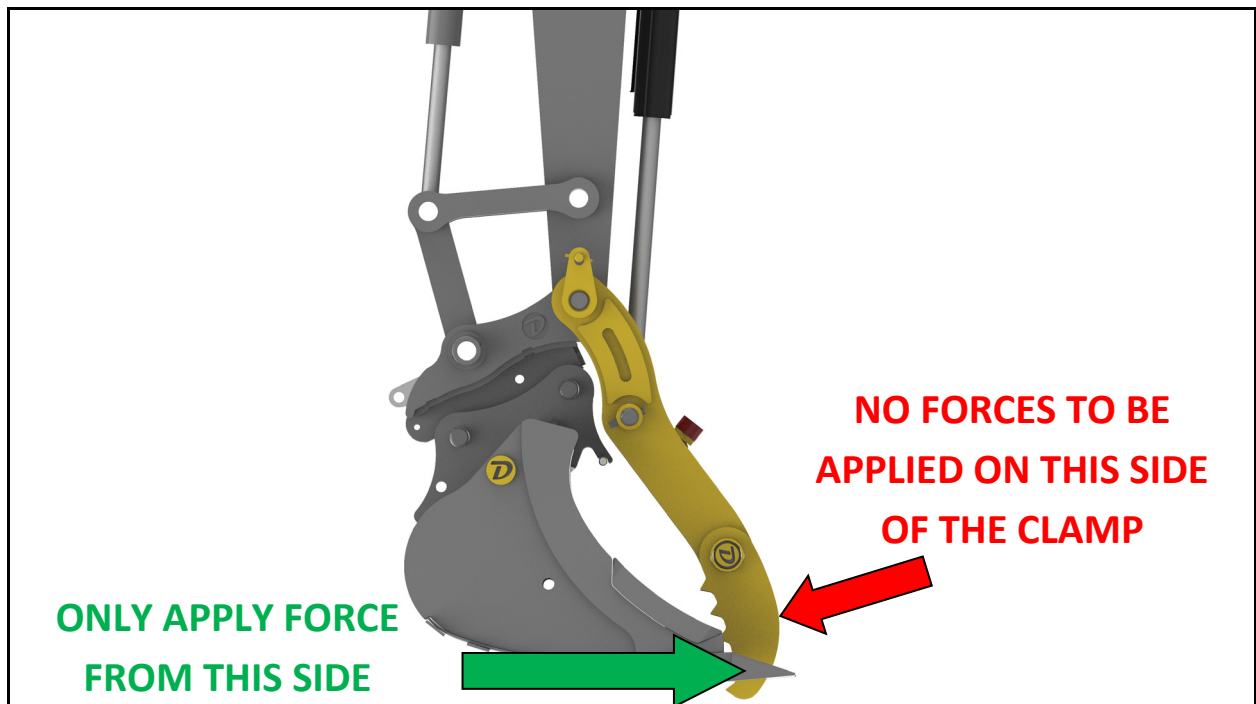

Figure 9 CLAMP FORCES
- The Bucket Clamp is designed to work with a standard bucket and should only experience forces exerted by the opposing bucket as shown in Figure 9
- When the Bucket Clamp cylinder is fully extended the Bucket Clamp should not experience any loading that tries to extend the cylinder as shown Figure 9